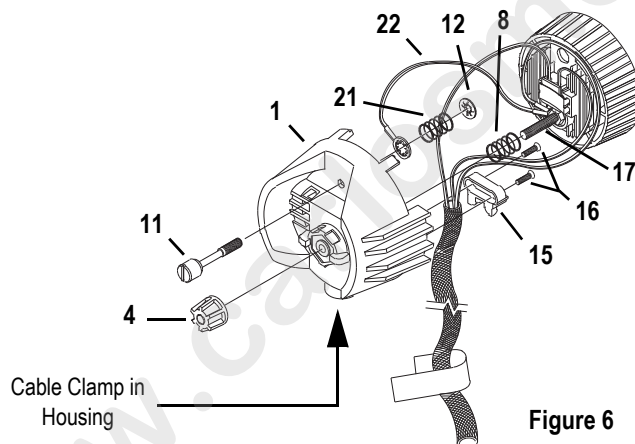

Figure 6
- Step 10: Insert the knurled head screw (11) through the housing socket casting (1) as shown in Figure 6.
- Step 11: Install the shorter green ground wire (22) onto the screw. The prongs on the crimped connector should be toward the casting.
- Step 12: Install the ground spring (21) onto the screw and secure it with the Southco flat retaining ring (12). Install the Southco ring with its prongs away from the casting.
- Step 16: Place the compression spring (8) on the protrusion on the inside of the index hub. See Figure 6.
- Step 17: Insert bolt (17) through spring (8) and through the index hub (6) of the housing socket (1), joining the two castings as shown in Figure 6. Make sure wires are not pinched between the two pieces.
- Step 19: Press the two castings together firmly so the bottom of the light baffle (2) sits on top of the cable clamp (15), then install Z lamp knob (4). Hand tighten the knob all the way to the right. See Figure 6.